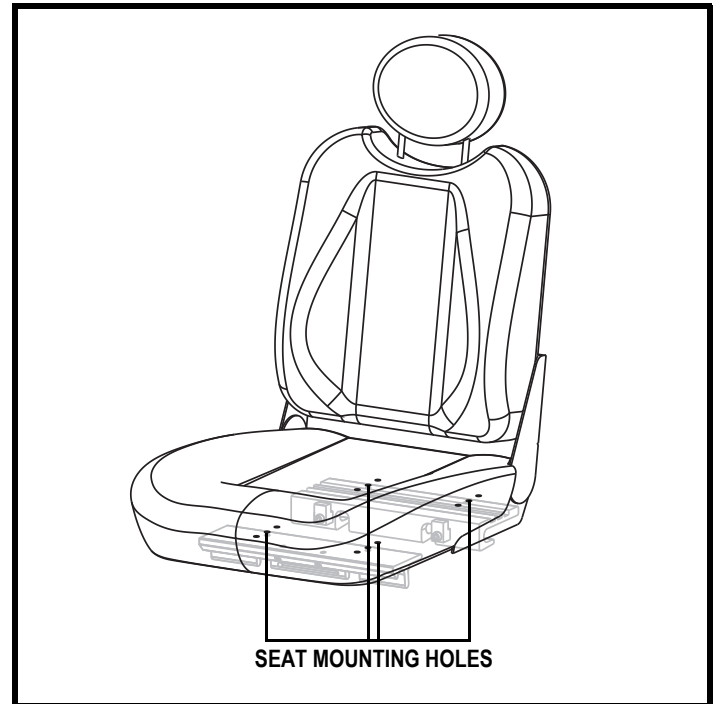

Figure 13. Seat Position Adjustment
6. Reposition the extrusions on a different set of mounting holes. You must move both extrusions the same number of holes either forward or backwards. **See figure 13.**